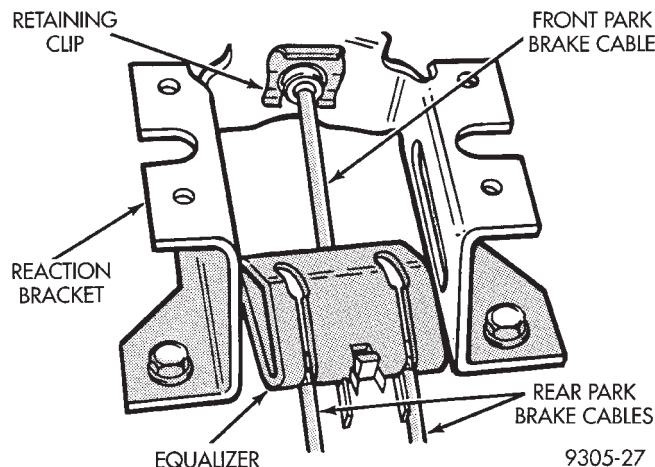

Fig. 9 Park Brake Cables Connected To Equalizer
(4) Connect the replacement park brake cable to the park brake cable equalizer (Fig. 9). **Note:** The equalizer can be moved rearward to allow connection of the rear cable to the equalizer.